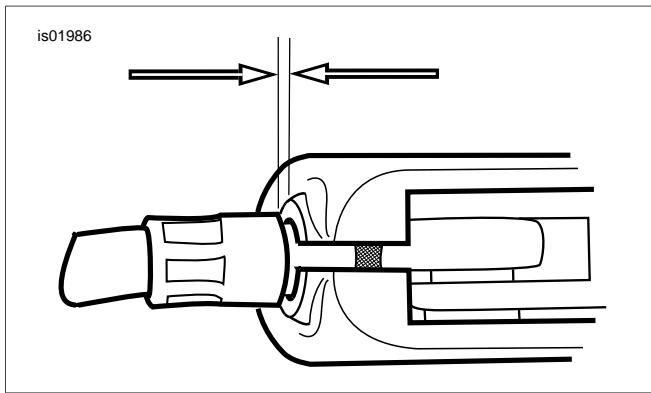

Figure 2. 1/16-1/8 inch (1.6-3.2 mm) Clutch Cable Free Play
- See Figure 2. Turn cable adjuster away from jam nut until slack is eliminated at hand lever. Pull clutch cable ferrule away from clutch lever bracket to check free play. Turn cable adjuster as necessary to obtain 1/16-1/8 inch (1.6-3.2 mm) free play between end of cable ferrule and clutch lever bracket.